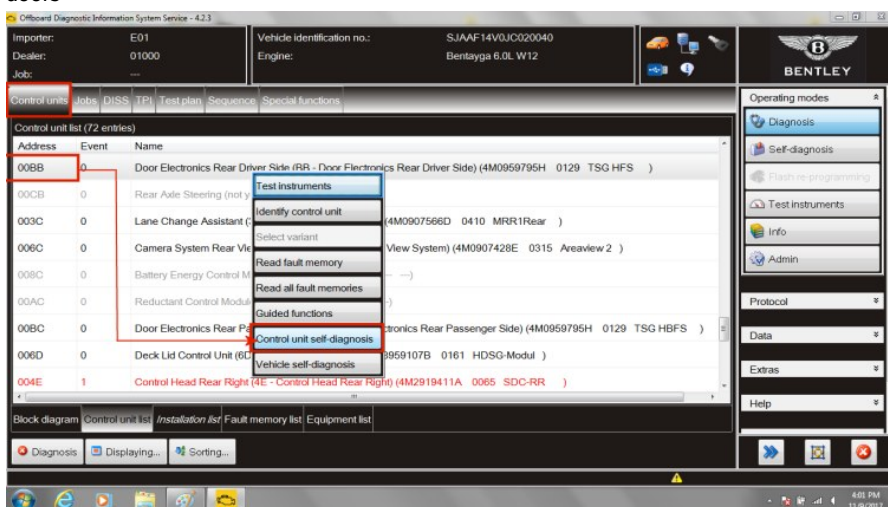

Figure 7
- Within *Control units*– Select (single touch) *00BB Door Electronics Rear Drivers Side*– Reveal drop down menu (extended touch and release). Select *Control unit self-diagnosis* (see Figure 7)